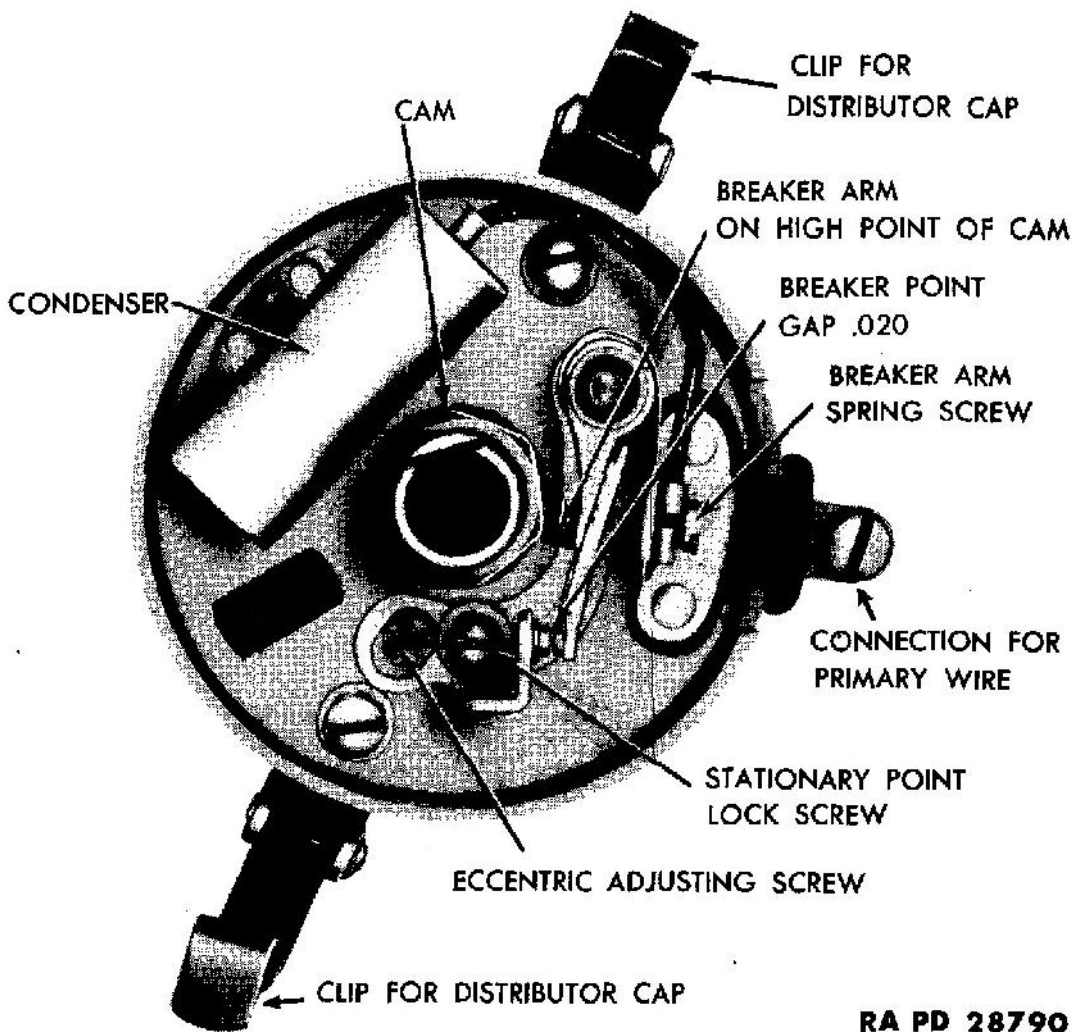

Figure 20 — Distributor Breaker Points
(1) **ADJUSTMENT.** Unsnap the two clips which hold the distributor cap and remove the cap. Turn the engine until the breaker arm is on the high point of the cam, loosen the stationary point lock screw (fig. 20). Turn the eccentric adjusting screw (fig. 20) to the right or left until the gap between the points measure 0.020 inch. Tighten the lock screw and recheck the gap.
(2) **REPLACEMENT.** Remove the breaker arm screw (fig. 20) and lift off the breaker arm. Remove the lock screw from the stationary breaker point and remove the point. To install, place the breaker arm on the pin and install the lock screw through the bracket and in the center of the slot in the breaker arm spring. Place the stationary breaker point in position and install the lock screw. Adjust the points (subpar. (1) above).